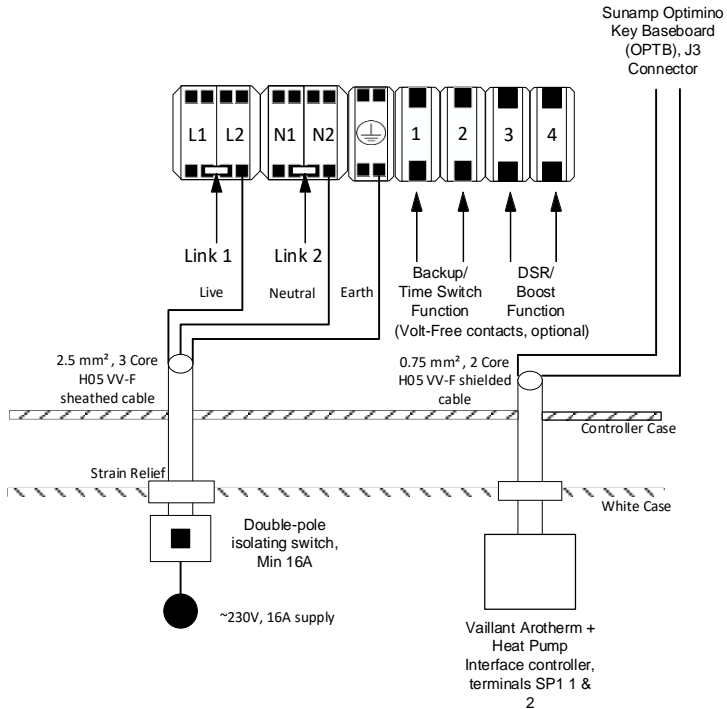

Figure VT.1 - Thermino xPlus with VT01 Optimino key
- Thermino xPlus with the "VT01" & "VT02" Optimino keys (D0084 - Section 6.4.2 for wiring instructions & Figures VT.1 & VT.2 below)
cables in terminals J3 on the Optimino Board, please see Figures VT.1 & VT.2 below for reference.